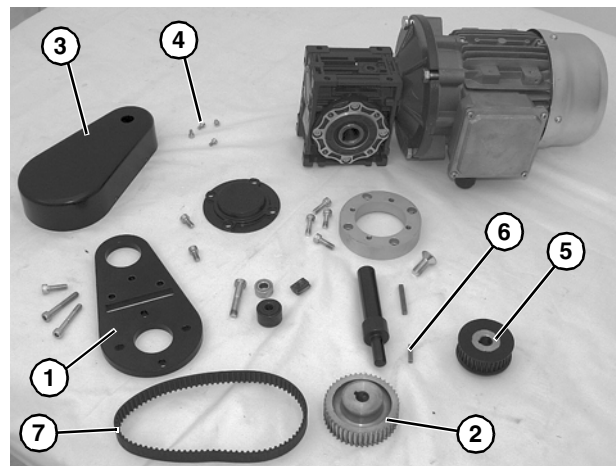

Figure 5
1. Gather installation components (Figure 5)
Type 1 mounting package shown (Figure 5), Type 2 mounting package similar.